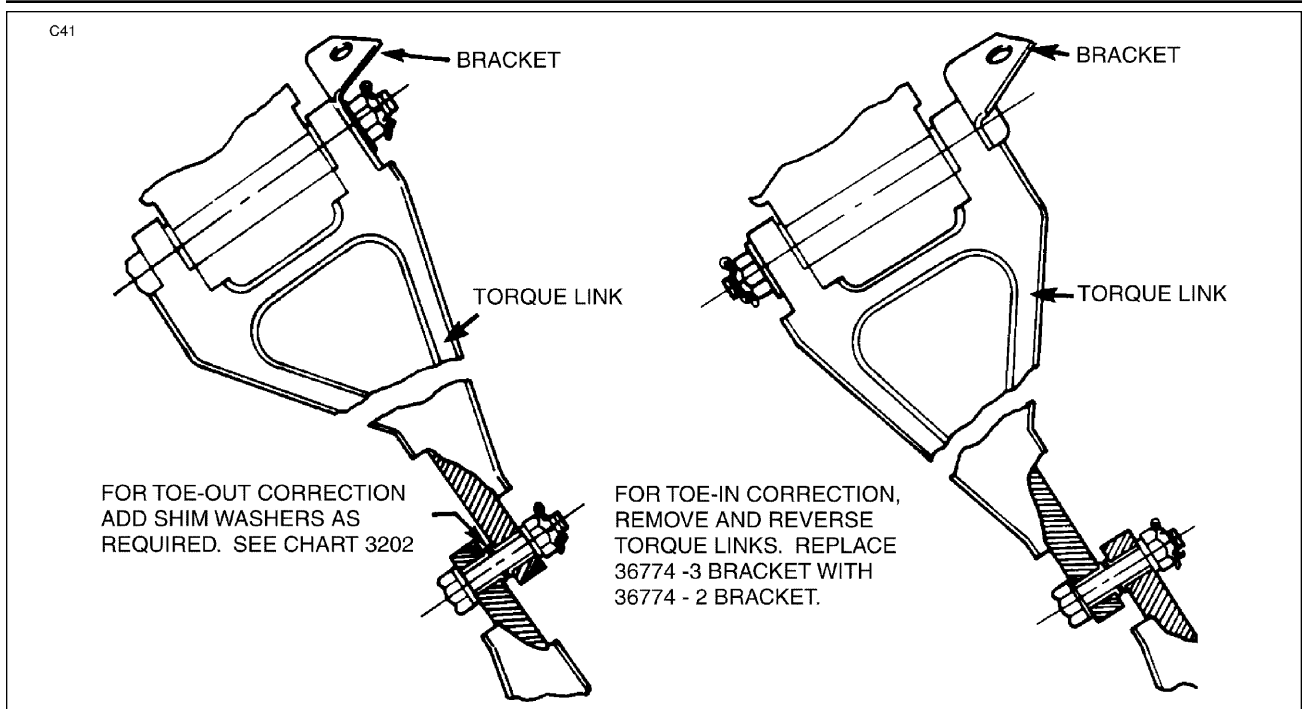

Figure 32-4. Toe-In/Toe-Out Adjustment
- (4) To rectify the toe-in and toe-out condition, remove the bolt connecting the upper and lower torque links and remove or add spacer washers to move the wheel in the desired position. Refer to Chart 3202.
- (5) Should a condition exist that all spacer washers have been removed and it is still necessary to move the wheel further in or out, then it will be necessary to turn the torque link assembly over. (Refer to Figure 32-4.) This will put the link connecting point on the opposite side allowing the use of spacers to go in the same direction.
- (6) Recheck wheel alignment. If the alignment is correct, safety the castellated nut with cotter pin.
- (7) If a new link on the top left main gear has to be installed or it had to be reversed during the alignment check, it will be necessary to check the gear safety switch (squat switch) bracket for engagement and locking in place. If link has to be reversed, then the bolt also has to be reversed and microswitch bracket P/N 36774-3 will be replaced by microswitch bracket 36774-2.
- (8) Check adjustment of landing gear safety switch (squat switch).